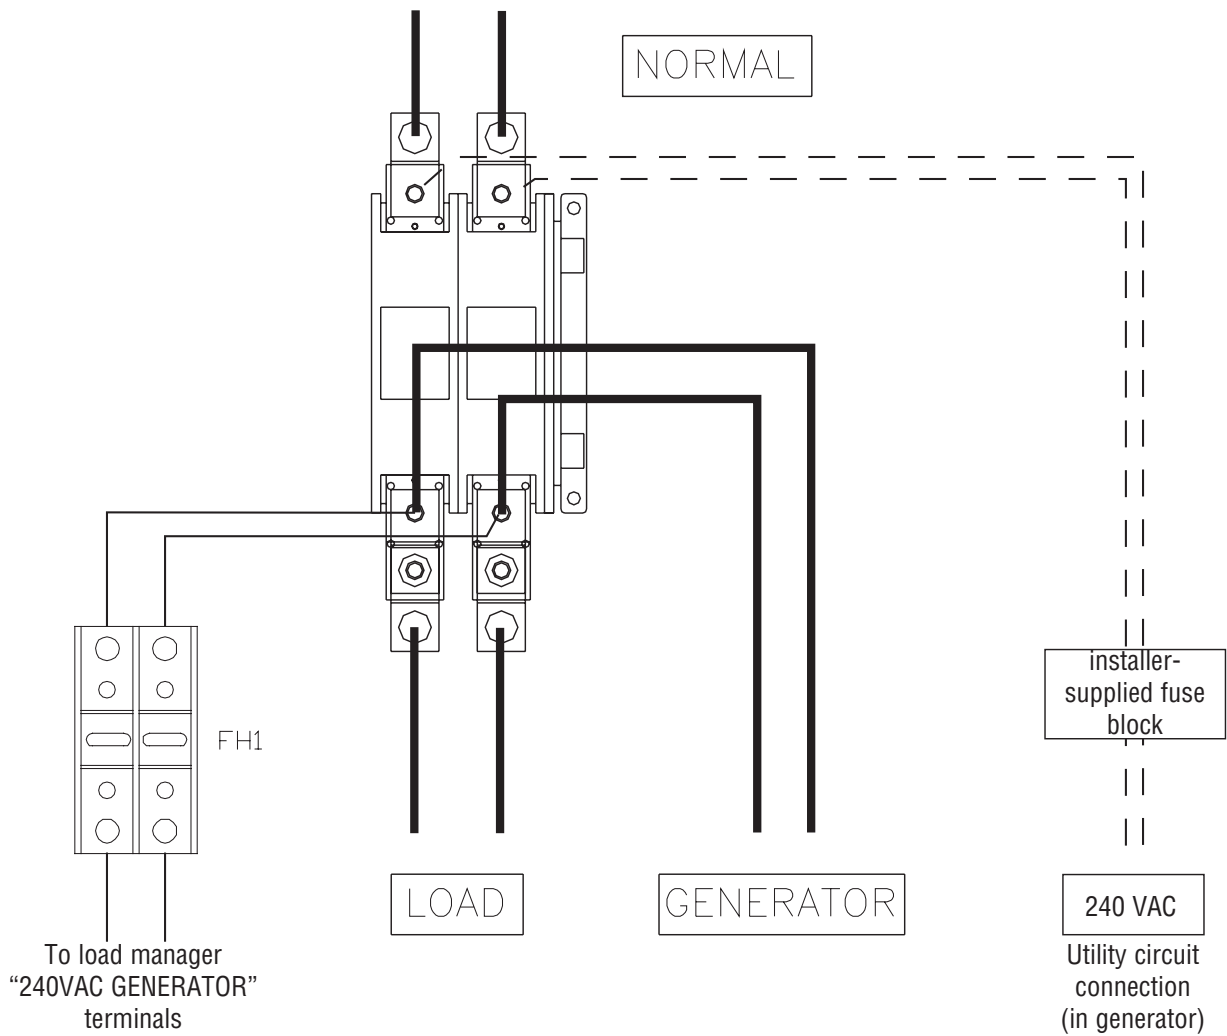

Figure 9 - Dynagen Wiring Diagram
For the following connection procedure, refer to Dynagen Wiring Diagram (Figure 9); to the B&S load manager manual; and to the manuals packed with the Dynagen Transfer Switch.
4. Using installer-supplied 300VAC 18AWG copper wire, connect generator 240VAC sensing terminals other end of fuse holder. See Figure 9 for wiring diagram.